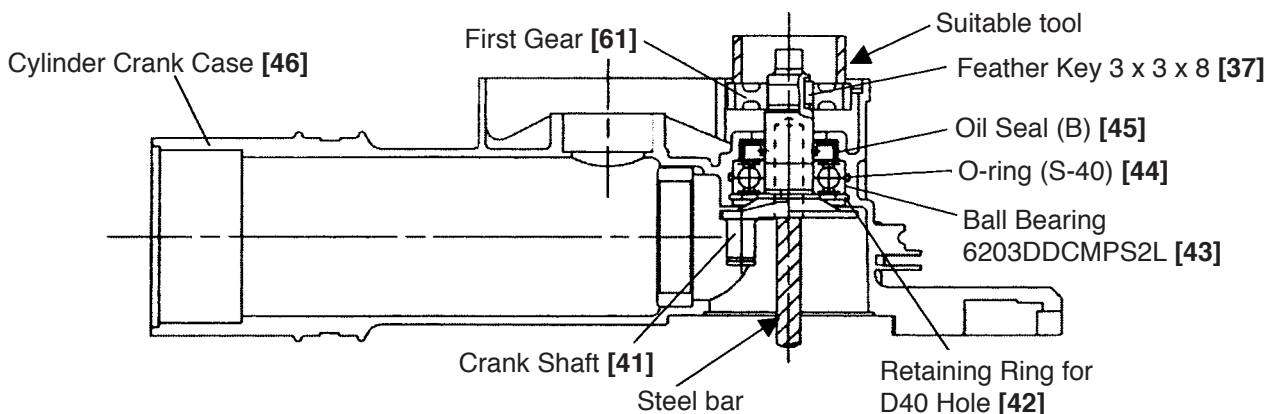

Fig. 21
Press-fit Oil Seal (B) [45] into the Cylinder Crank Case [46] and mount the O-ring (S-40) [44]. Press-fit the Ball Bearing 6203DDCMPS2L [43]. Mount the Retaining Ring for D40 Hole [42] using a retaining ring puller. Press-fit the Crank Shaft [41] into the Ball Bearing 6203DDCMPS2L [43]. Put the Feather Key 3 x 3 x 8 [37] in the groove of the Crank Shaft [41] and press-fit the First Gear [61] with a suitable tool while holding the flat portion of the Crank Shaft [41] with a steel bar. Before press-fitting, make sure that the Feather Key 3 x 3 x 8 [37] fits in the key groove of the First Gear [61] (Fig. 21).